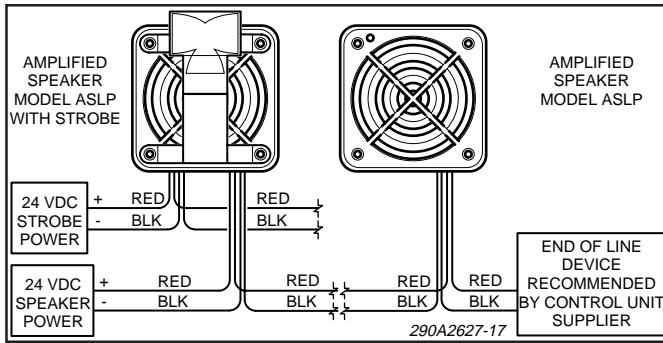

Figure 1. Typical Tone Card Installation Wiring.
a. See figure 1. Connect the device's red (+) leads to the power source positive (+) lead. Connect the device's black (-) leads to the power source negative (-) lead.
a. See figure 1. Connect the strobe light's red (+) lead to the power source positive (+) lead. Connect the strobe light's black (-) lead to the power source negative (-) lead. If independent control of the strobe light(s) is not needed, the leads may be joined with the ASLP's power leads.
b. See figures 1, 2, and 3. Perform the procedure in paragraph III.B.1. Tone Card Installation or paragraph III.B.2. PTCK Connector Kit Installation as applicable.